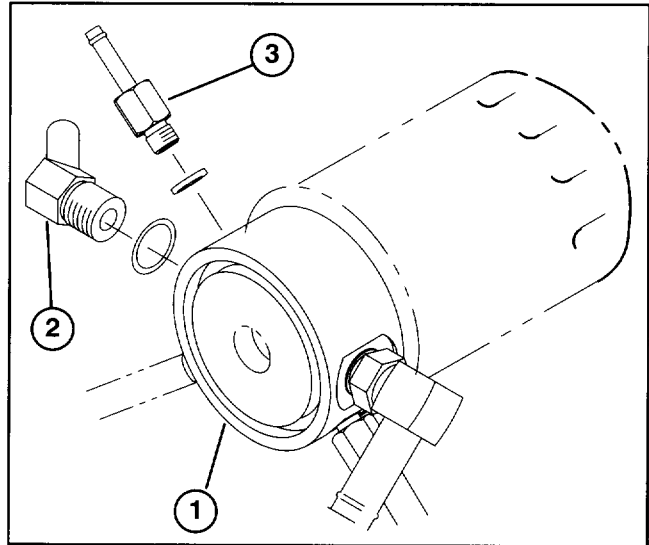
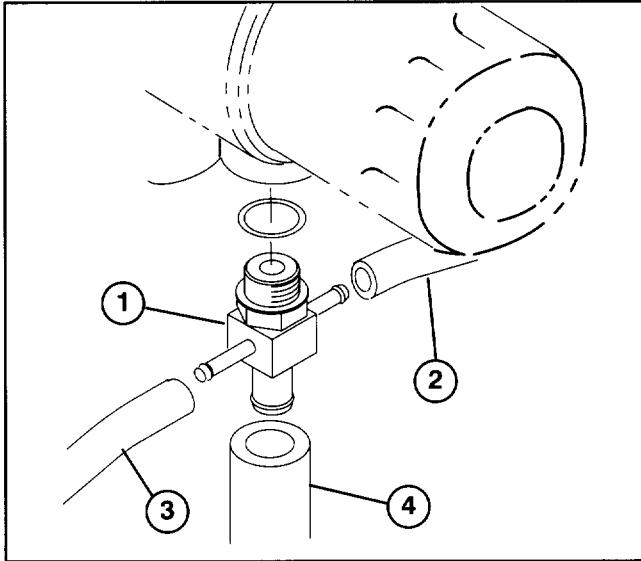

Figure 14
Figure 15
23. Install 45° fitting into transmission oil filter adapter. Fitting to be positioned so opening points toward manifold block (Fig. 14).
24. Install straight fitting into transmission oil filter adapter (Fig. 14).
25. Install hydraulic hose to 90° fitting on front of manifold block and straight fitting on oil filter adapter with (2) hose clamps.
26. Cut remaining hydraulic hose to a length of 8". Install hose to 90° fitting on bottom of manifold block and 45° fitting on oil filter adapter with (2) hose clamps.
27. Disconnect left and right lift cylinder hoses and return hose from cross fitting on bottom of transmission (Fig. 15).
28. Remove cross fitting from transmission (Fig. 15).